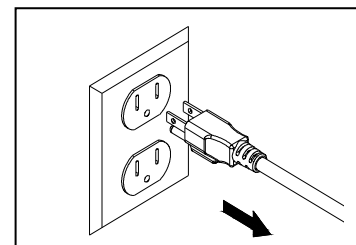

Fig. 5
- Unplug the power cord, and then carefully remove the Floating Pump and Filter assembly from the pond. Fig. 5